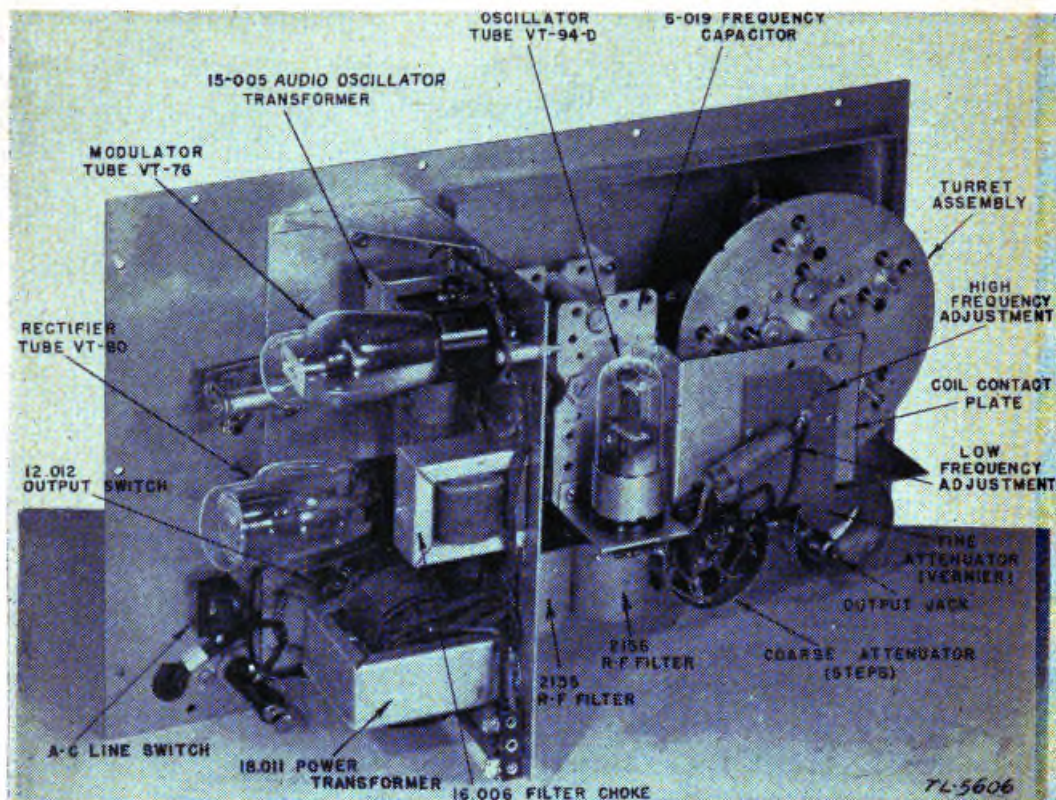

FIGURE 6.—Signal generator I-72-H—rear view of chassis with oscillator and attenuator covers removed.
10. Attenuator.—The attenuator is built in two sections in the round shielded compartments at the lower right of the chassis as shown in figure 6. The first section R-5, R-6, R-7, and R-8 consists of four steps, each giving increases of approximately 10 to 1 per step as the control is advanced from 1 to 4. The second section R-9 is a vernier to permit closer adjustment of the output levels between adjustment obtainable with the STEPS control. Maximum output is obtained when the STEPS control is set at 4 and the VERNIER control is set at the extreme right or clockwise position. When using the 400-cycle oscillator output through the attenuator, a maximum of approximately 1.2 volts is available. With the step attenuator in position 1, audio output will be zero.
14. Tube replacement.—Either tube VT-80 or tube VT-76 may be replaced without affecting the calibration of the instrument. Ordinarily, this is also true of tube VT-94-D although the frequency calibration should be checked after changing this tube before further use is attempted. If the calibration of the signal generator is thrown off by the replacement of tube VT-94-D, normal operation of the signal generator for a period of 24 to 48 hours will age the tube and usually restore the instrument to calibration. Calibration change will be most noticeable at the high-frequency end of band 5. Small changes in calibration can be corrected by means of the trimmer capacitor adjacent to each coil and accessible through the upper adjustment port in the oscillator shield can (see fig. 6). The chassis may be withdrawn by removing the fourteen binding-head screws which are at the edge of the front panel. The chassis is then removed by tilting the case forward.
as it is possible that the standard may be at fault. Only qualified personnel should attempt to recalibrate this instrument. Attention is directed to the adjustable iron core in each coil for the control of its inductance and to the five trimmers on the turntable assembly for control of the capacities of the individual bands. Adjustment should be made preferably through the two access ports provided in the rear of the oscillator shield can, with the shield in place (see fig. 6). Although the two adjustments for each band are not completely independent, it may be said that the iron slug has the greater control over the low-frequency end of each band and the trimmer over the high-frequency end. After the iron slug has been adjusted, the jam nut should be reseated to prevent shifting of the adjustment.